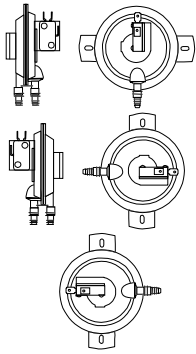

Fig. 2
Air Sampling Connection (see Figure 2, page 2)
The RSS switches are equipped with two concentric barbed slip-on sample line connections which will accept a wide range of flexible tube sizes ($\frac{1}{4}$ " and $\frac{3}{8}$ " ID diameter). Refer to Figure 2 to identify the **High inlet (H)** and the **Low inlet (L)**. Connect the sample lines as follows: